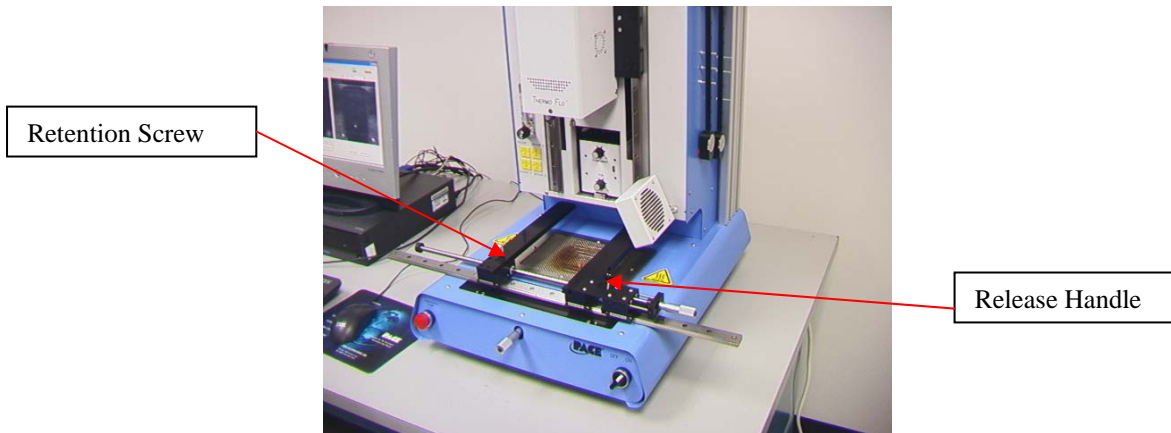
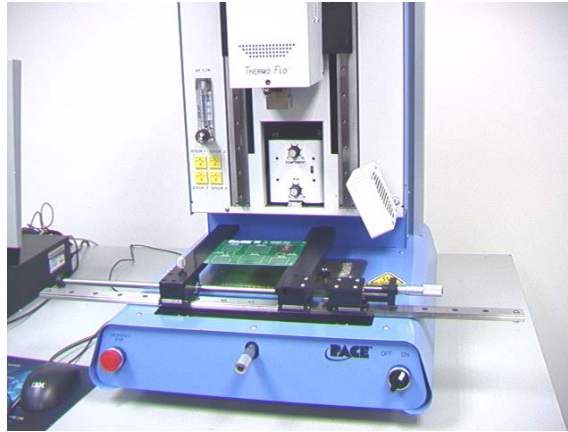

Figure 16
Figure 22
- v. Place the PCB between the arms on the TF 1700 and tighten the retention screw. (Figure 16)
- v. Place the PCB between the arms on the board holder and tighten the retention screw. (Figure 16) Position the board so the red laser sighting light is roughly in the center of the component. To move the board forward and back simply move the PCB in the arms. To move the assembly left and right push the release handle away from you and move the assembly. Pull the release handle towards you to secure the assembly. (Figure 22)